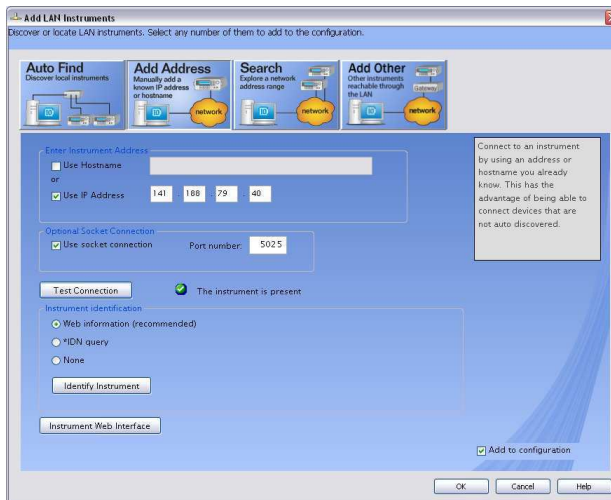

Figure 1-15 Add LAN Instruments dialog
- 3 In the Add LAN Instruments dialog (Figure 1-15), click **Add Address** at the top of the dialog.